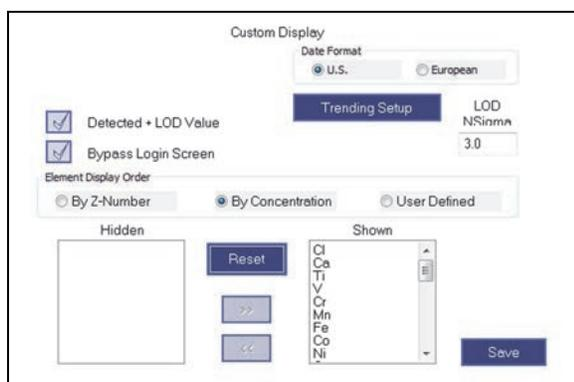

Figure 1-46 The Custom Display pane
1. Select a date format of **U.S.** or **European** (see Figure 1-46 on page 37).